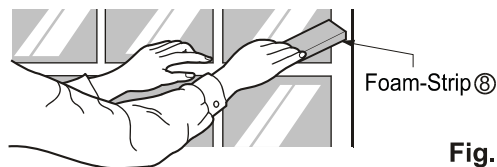

Fig. 8
11. Cut the Foam-Strip ⑧ to the proper length (window width) and wedge between the upper window sash and the lower window sash. ( Fig. 8)